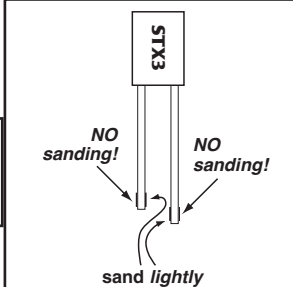

Fig. 6—Resurface STX3
- **RESURFACE** – To resurface the electrode, *lightly* sand the voltage electrode of the **STX3**, which is the silver pellet on the inner surface near the electrode tips. Use the 600-grade ultra fine sandpaper provided. (See Fig. 6, right.) Remove only a very thin surface layer of the pellet.